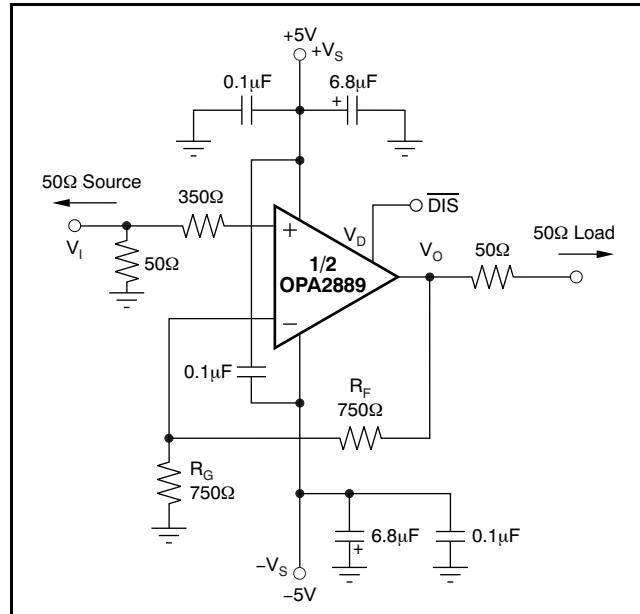
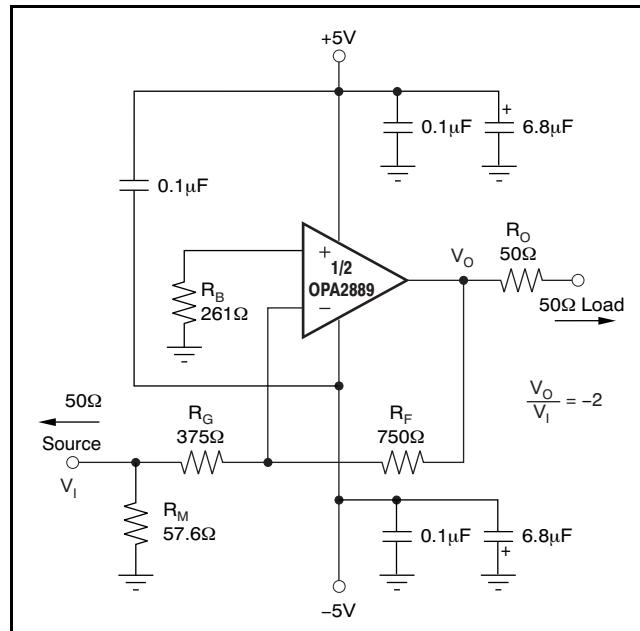

Figure 50. DC-Coupled, $G = +2$, Bipolar Supply, Specification and Test Circuit
Figure 60. Gain of -2V/V Example Circuit
At $T_A = +25^\circ\text{C}$, $G = +2\text{V/V}$, $R_F = 750\Omega$, and $R_L = 100\Omega$, unless otherwise noted. See Figure 50.
Figure 50 shows the dc-coupled, gain of +2V/V, dual power-supply circuit configuration used as the basis of the ±5V Electrical Characteristics and ±5V Typical Characteristics. This illustration is for one channel; the other channel is connected similarly. For test purposes, the input impedance is set to 50Ω with a resistor to ground and the output impedance is set to 100Ω . Voltage swings reported in the Electrical Characteristics are taken directly at the input and output pins, while output powers (dBm) are at the matched 50Ω load. For the circuit of Figure 50, the total effective load will be $100\Omega \parallel 1.5\text{k}\Omega$. The disable control line (MSOP-10 package only) is typically left open for normal amplifier operation. Two optional components are included in Figure 50. An additional resistor (350Ω) is included in series with the noninverting input. Combined with the 25Ω dc source resistance looking back towards the signal generator, this resistor gives an input bias current cancelling resistance that matches the 375Ω source resistance seen at the inverting input (see the DC Accuracy and Offset Control section). In addition to the usual power-supply decoupling capacitors to ground, a $0.1\mu\text{F}$ capacitor is included between the two power-supply pins. In practical printed circuit board (PCB) layouts, this optional-added capacitor typically improves the 2nd-harmonic distortion performance by 3dB to 6dB.
A good rule of thumb is to target the parallel combination of R_F and R_G (see Figure 50) to be less than approximately 400Ω . The combined impedance $R_F \parallel R_G$ interacts with the inverting input capacitance, placing an additional pole in the feedback network and thus, a zero in the forward response. Assuming a $2pF$ total parasitic on the inverting node, holding $R_F \parallel R_G < 400\Omega$ keeps this pole above $160MHz$. By itself, this constraint implies that the feedback resistor R_F can increase to several $k\Omega$ at high gains. This increase in resistor size is acceptable as long as the pole formed by R_F and any parasitic capacitance appearing in parallel is kept out of the frequency range of interest.
Voltage-feedback op amps exhibit decreasing closed-loop bandwidth as the signal gain increases. In theory, this relationship is described by the Gain Bandwidth Product (GBP) shown in the Electrical Characteristics. Ideally, dividing GBP by the noninverting signal gain (also called the Noise Gain, or NG) predicts the closed-loop bandwidth. In practice, this principle only holds true when the phase margin approaches 90° , as it does in high gain configurations. At low gains (increased feedback factors), most amplifiers exhibit a more complex response with lower phase margin. The OPA2889 is compensated to give a slightly peaked response in a noninverting gain of $2V/V$ (see Figure 50). This compensation results in a typical gain of $+2V/V$ bandwidth of $60MHz$, far exceeding that predicted by dividing the $75MHz$ GBP by 2. Increasing the gain causes the phase margin to approach 90° and the bandwidth to more closely approach the predicted value of (GBP/NG). At a gain of $+10$, the $8MHz$ bandwidth shown in the Electrical Characteristics agrees closely with that predicted using the simple formula and the typical GBP of $75MHz$.
The frequency response in a gain of $+2V/V$ may be modified to achieve exceptional flatness simply by increasing the noise gain to $2.5V/V$. One way to modify the response without affecting the $+2V/V$ signal gain, is to add a 750Ω resistor across the two inputs, as shown in the circuit of Figure 50. A similar technique may be used to reduce peaking in unity-gain (voltage follower) applications. For example, by using a 750Ω feedback resistor along
The OPA2889 is a general-purpose, wideband, voltage-feedback op amp; therefore, all of the familiar op amp application circuits are available to the designer. Inverting operation is one of the more common requirements and offers several performance benefits. See Figure 60 for a typical inverting configuration where the I/O impedances and signal gain from Figure 50 are retained in an inverting circuit configuration.
In the inverting configuration, three key design considerations must be noted. The first is that the gain resistor (R_G) becomes part of the signal channel input impedance. If input impedance matching is desired (which is beneficial whenever the signal is coupled through a cable, twisted-pair, long PCB trace, or other transmission line conductor), R_G may be set equal to the required termination value and R_F adjusted to give the desired gain. This consideration is the simplest approach and results in optimum bandwidth and noise performance. However, at low inverting gains, the resultant feedback resistor value can present a significant load to the amplifier output. For an inverting gain of -2V/V , setting R_G to 50Ω for input matching eliminates the need for R_M but requires a 100Ω feedback resistor. This approach has the interesting advantage that the noise gain becomes equal to 2V/V for a 50Ω source impedance—the same as the noninverting circuits considered in Figure 60. The amplifier output, however, now sees the 100Ω feedback resistor in parallel with the external load. In general, the feedback resistor should be limited to the 200Ω to $1.5\text{k}\Omega$ range. In this case, it is preferable to increase both the R_F and R_G values (see Figure 60), and then achieve the input matching impedance with a third resistor (R_M) to ground. The total input impedance becomes the parallel combination of R_G and R_M .
The second major consideration, touched on in the previous paragraph, is that the signal source impedance becomes part of the noise gain equation and influences the bandwidth. For the example in Figure 60, the R_M value combined in parallel with the external 50Ω source impedance yields an effective driving impedance of $50\Omega \parallel 57.6\Omega = 26.7\Omega$. This impedance is added in series with R_G for calculating the noise gain (NG). The resulting NG is 2.86V/V for Figure 60, as opposed to only 2V/V if R_M could be eliminated as discussed above. Therefore, the bandwidth is slightly lower for the gain of -2V/V circuit of Figure 60 than for the gain of $+2\text{V/V}$ circuit of Figure 50.
The third important consideration in inverting amplifier design is setting the bias current cancellation resistor on the noninverting input (R_B). If this resistor is set equal to the total dc resistance looking out of the inverting node, the output dc error, as a result of the input bias currents, is reduced to $(\text{Input Offset Current}) \times R_F$. If the 50Ω source impedance is dc-coupled in Figure 60, the total resistance to ground on the inverting input is 402Ω .
The OPA2889 provides good distortion performance into a 200Ω load on $\pm 5\text{V}$ supplies. Relative to alternative solutions, it provides exceptional performance into lighter loads and/or operating on a single $+5\text{V}$ supply. Generally, until the fundamental signal reaches very high frequency or power levels, the 2nd-harmonic dominates the distortion with a negligible 3rd-harmonic component. Focusing then on the 2nd-harmonic, increasing the load impedance improves distortion directly. Remember that the total load includes the feedback network; in the noninverting configuration (see Figure 50), this total is the sum of $R_F + R_G$, while in the inverting configuration it is just R_F . Also, providing an additional supply-decoupling capacitor ($0.1\mu\text{F}$) between the supply pins (for bipolar operation) improves the 2nd-order distortion slightly (3dB to 6dB). Operating differentially also lowers 2nd-harmonic distortion terms (see the plot on the front page).
Evaluating these two equations for the OPA2889 circuit and component values (see Figure 50) gives a total output spot noise voltage of $18.2\text{nV}/\sqrt{\text{Hz}}$ and a total equivalent input spot noise voltage of $9.1\text{nV}/\sqrt{\text{Hz}}$. This total includes the noise added by the bias current cancellation resistor (350Ω) on the noninverting input. This total input-referred spot noise voltage is slightly higher than the $8\text{nV}/\sqrt{\text{Hz}}$ specification for the op amp voltage noise alone. This result is the case as long as the impedances appearing at each op amp input are limited to the
previously recommended maximum value of 400Ω . Keeping both $(R_F \parallel R_G)$ and the noninverting input source impedance less than 400Ω satisfies both noise and frequency response flatness considerations. Because the resistor-induced noise is relatively negligible, additional capacitive decoupling across the bias current cancellation resistor (R_B) for the inverting op amp configuration of Figure 60 is not required.
The balanced input stage of a wideband voltage-feedback op amp allows good output dc accuracy in a wide variety of applications. The power-supply current trim for the OPA2889 gives even tighter control than comparable amplifiers. Although the high-speed input stage does require relatively low $\pm 0.75\mu\text{A}$ input bias current, the close matching between them may be used to reduce the output dc error caused by this current. The total output offset voltage may be reduced by matching the dc source resistances appearing at the two inputs. This matching reduces the output dc error resulting from the input bias currents to the offset current times the feedback resistor. Evaluating the configuration of Figure 50, and using worst-case $+25^\circ\text{C}$ input offset voltage and current specifications, gives a worst-case output offset voltage equal to: